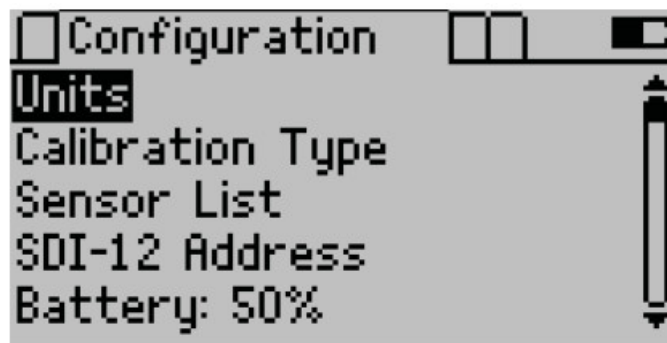

Figure 9 Configuration tab
1. Navigate to the Configuration tab ( **Figure 9** ).